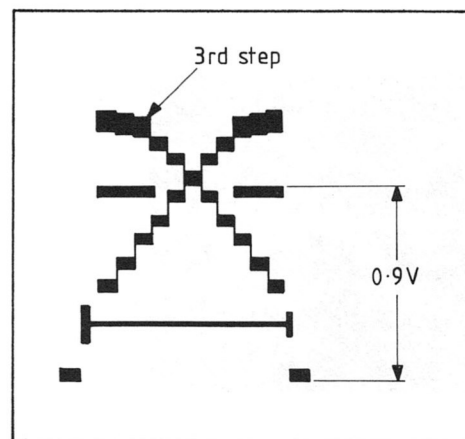

Fig 7.42
- (1) Focus on the grey-scale pattern
- (2) Adjust the iris control mechanism to attain a gain of 0.9V as shown in Figure 7.42
- (3) Adjust R35 **CHROMA LIMITER** potentiometer on CA 3501A immediately before the signals of the third step are distorted as shown in Figure 7.42.